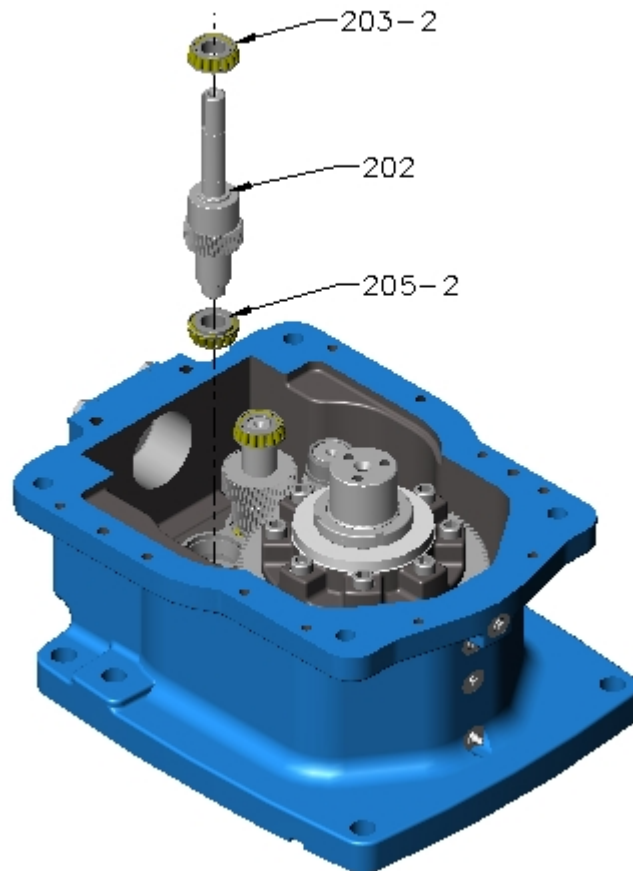

Figure 8 – Input Shaft
- H. Remove input shaft assembly (refer Figure 8).
- I. Input shaft disassembly (refer Figure 8):